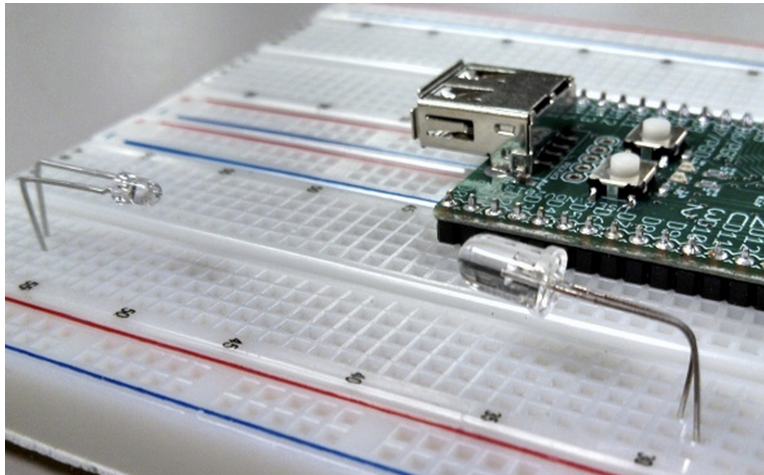

Figure 12.3: The phototransistor (left) and LED (right) pointed toward each other.
2. **Choose  $R$ .** Wire up the circuit as shown in Figure 12.1, except for the connection from the LED to OC1. The LED and phototransistor should be pointing toward each other, with approximately one inch separation, as shown in Figure 12.3. Now choose  $R$  to be as small as possible while ensuring that the voltage  $V_{\text{out}}$  at the phototransistor emitter is close to 3 V when the LED anode is connected to 3.3 V (maximum LED brightness) and close to 0 V when the LED anode is disconnected (the LED is off). (Something in the 10 k $\Omega$  range may work, but use a smaller resistance if you can still get the same voltage swing.) Record your value of  $R$ . Now connect the anode of the LED to OC1 for the rest of the project.